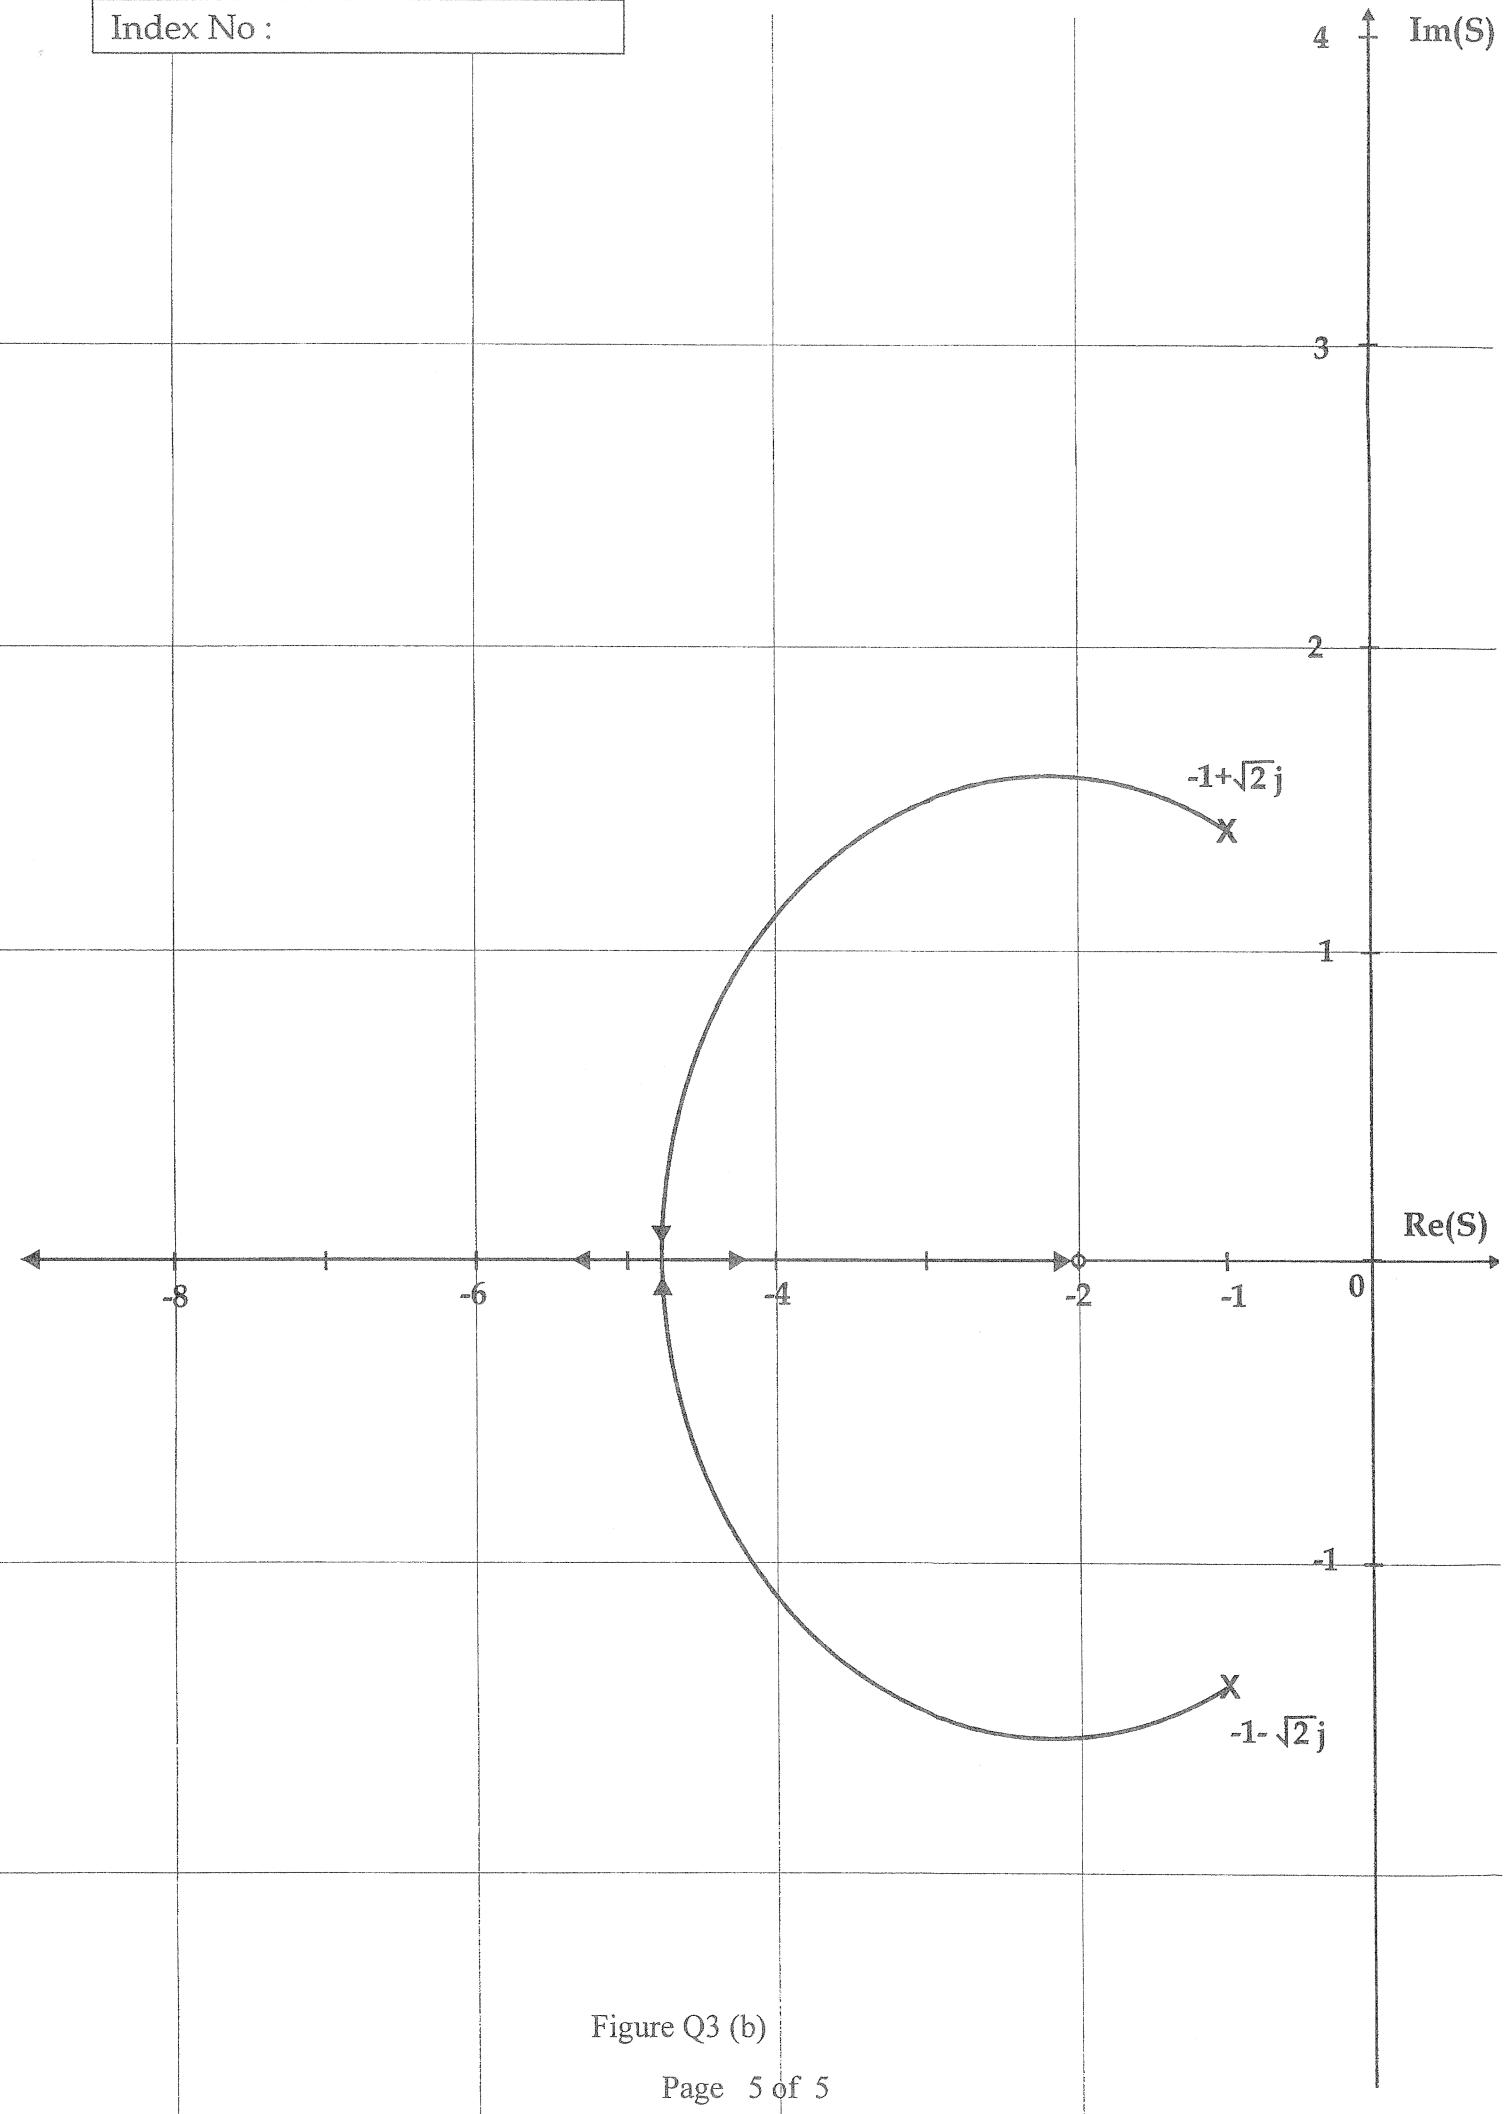

Figure Q3 (b)
- b) Consider the root locus given in Figure Q3 (b). It is desired to increase the system speed to  $\omega_n = 3\text{rads}^{-1}$  while maintaining the damping ratio ( $\xi$ ) at 0.5. Using the root locus of the closed loop system given in Figure Q3 (b), show that the design requirement cannot be achieved.